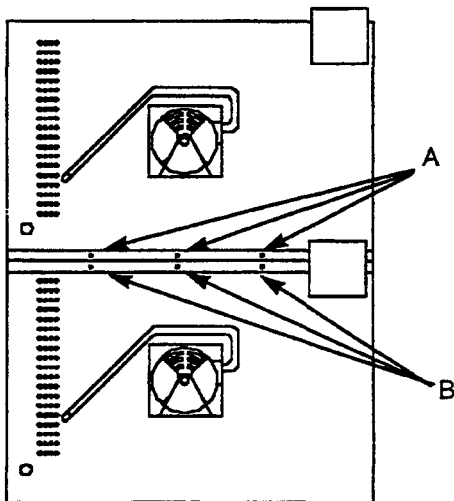

FIGURE 9
6. Move to the rear of the unit and remove screws (Items "A" and "B") in Figure 9.